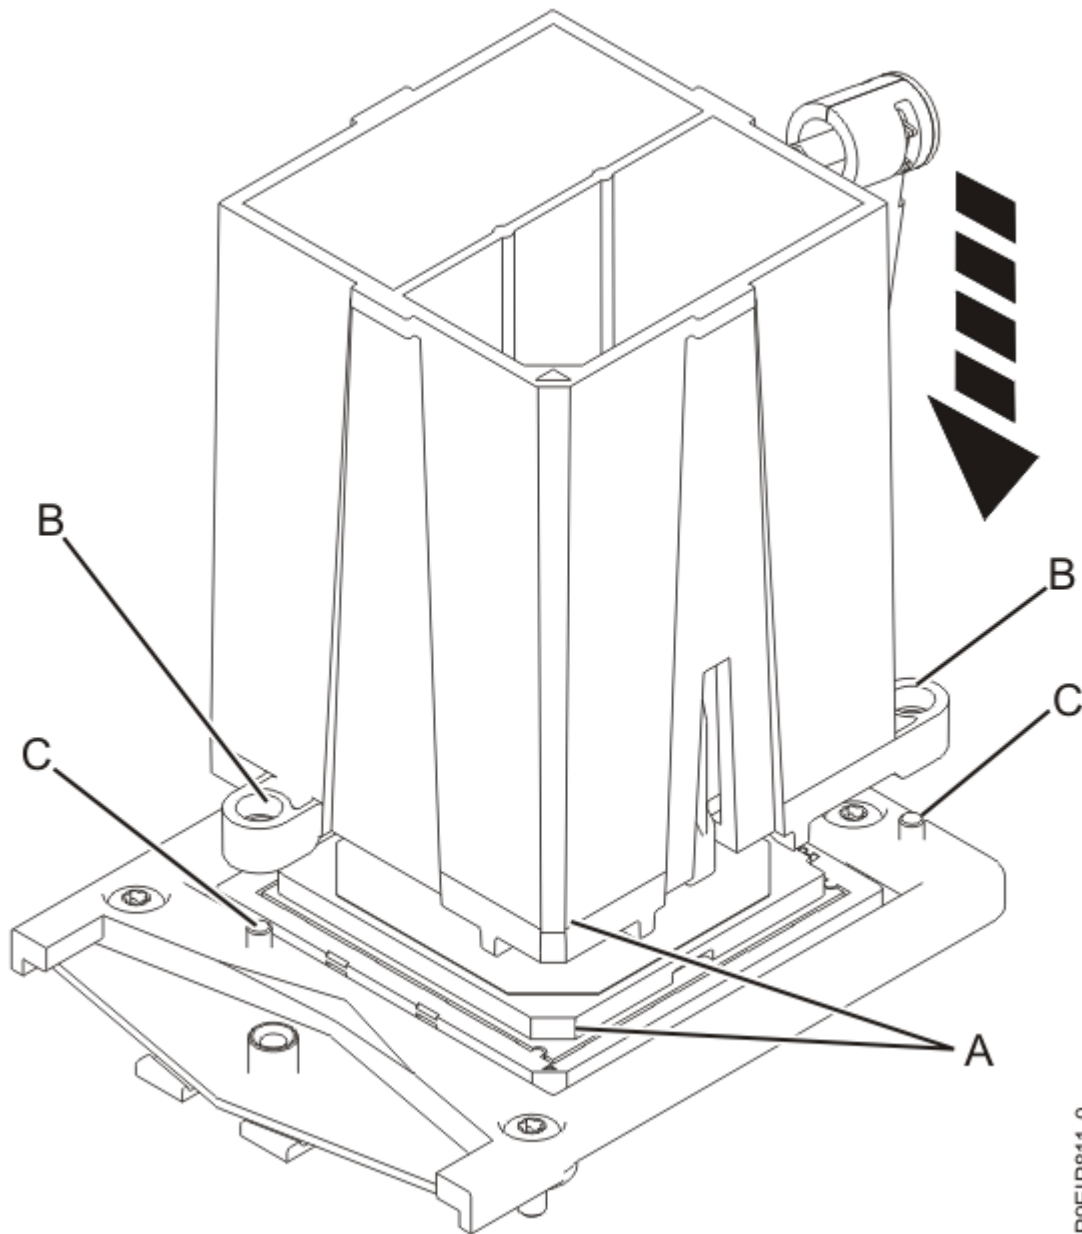

Figure 60. Installing the system processor module
4. Lower the tool and system processor module onto the socket. Align the beveled corner **(A)** of the tool with the beveled corner on the socket as shown in Figure 60 on page 64. Ensure that the two guide pins **(C)** are inserted into the alignment holes **(B)** on each side of the tool.